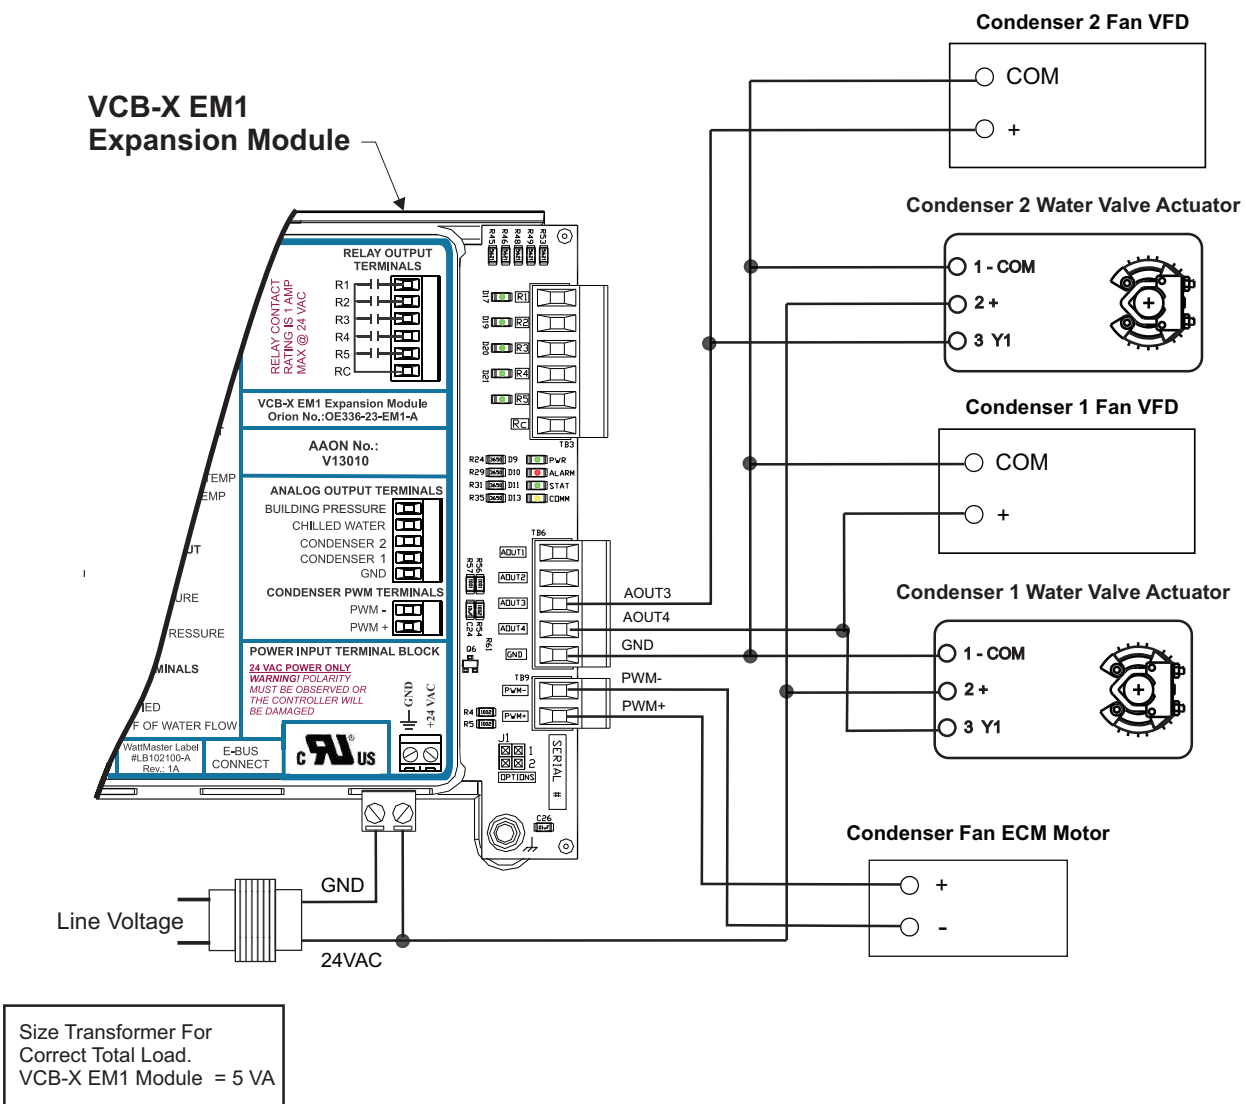

Figure 32: Condenser Fan ECM Motor and (2) Condenser Fans VFD or (2) Condenser Water Valves Actuator Wiring Diagram
The VCB-X EM1 Expansion Module can monitor up to (2) Head Pressure Transducers and control up to (2) Condenser Fans or Condenser Water Valves to maintain a Head Pressure Setpoint. The VCB-X Controller can be configured for an Air Cooled Condenser (default) or for a Water Cooled Condenser. See **Figure 32** for wiring